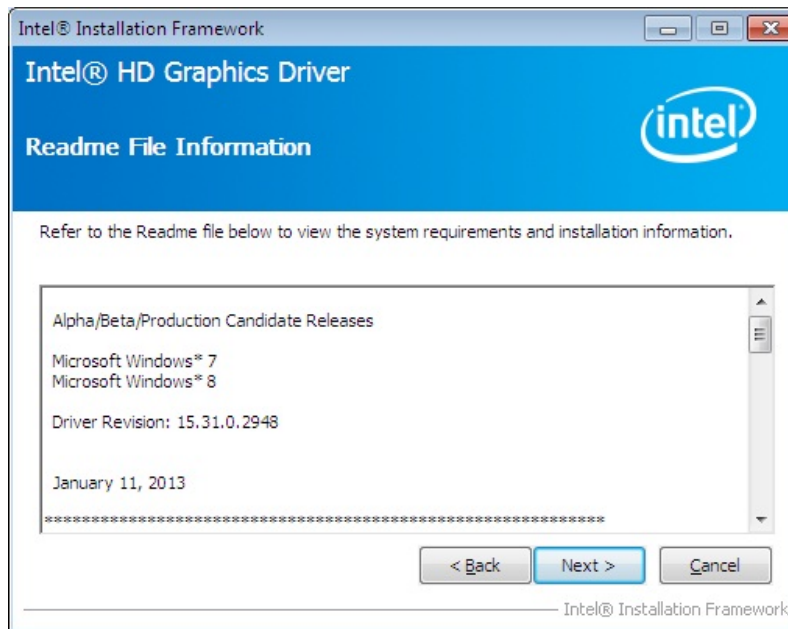

Figure 6-10: Graphics Driver Read Me File
Step 8: The Read Me file in **Figure 6-10** appears. Click **Next** to continue.